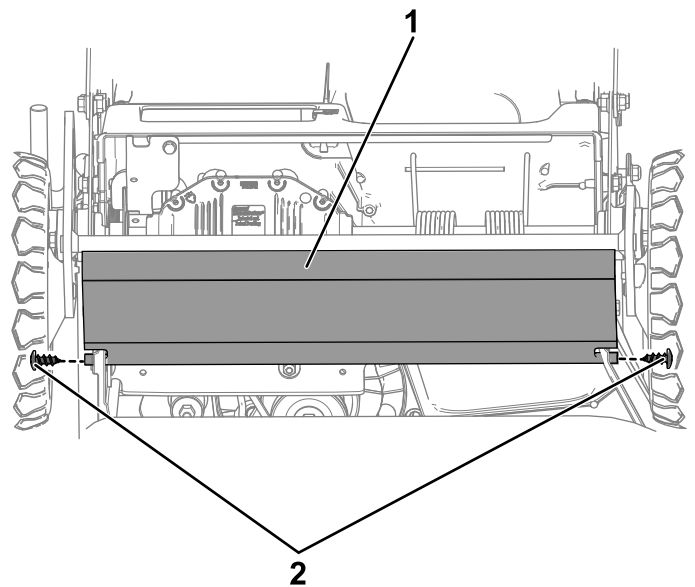

Figure 48
9. Remove the trailing shield by removing the 2 bolts holding it in place (Figure 48).